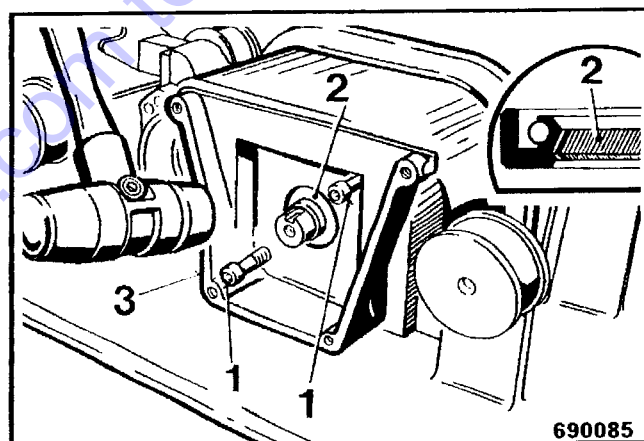

Fig. 6
- Drive the radial seal 2 (Fig. 6) into the bearing flange (3) without damaging.
- Screw two guide screws (1) into the housing through the mounting bores in the bearing flange.